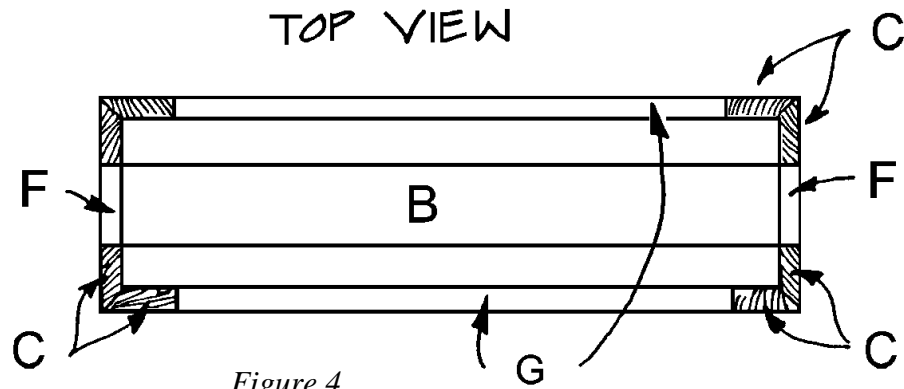

Figure 4
4. Cut two short shelf trim pieces (F) from 1 x 4 pine, each 3-1/2" long. Nail and glue them to the short sides of the laminated shelf (B), flush with the top of the shelf (B), as shown in *Figure 4*. Use about three 3-penny finishing nails on each short shelf trim piece (F).
5. Cut two long shelf trim pieces (G) from 1 x 4 pine, each 42" long. Nail and glue them to the long sides of the laminated shelf (B), flush with the top of the shelf (B). Space the nails about 6" apart.